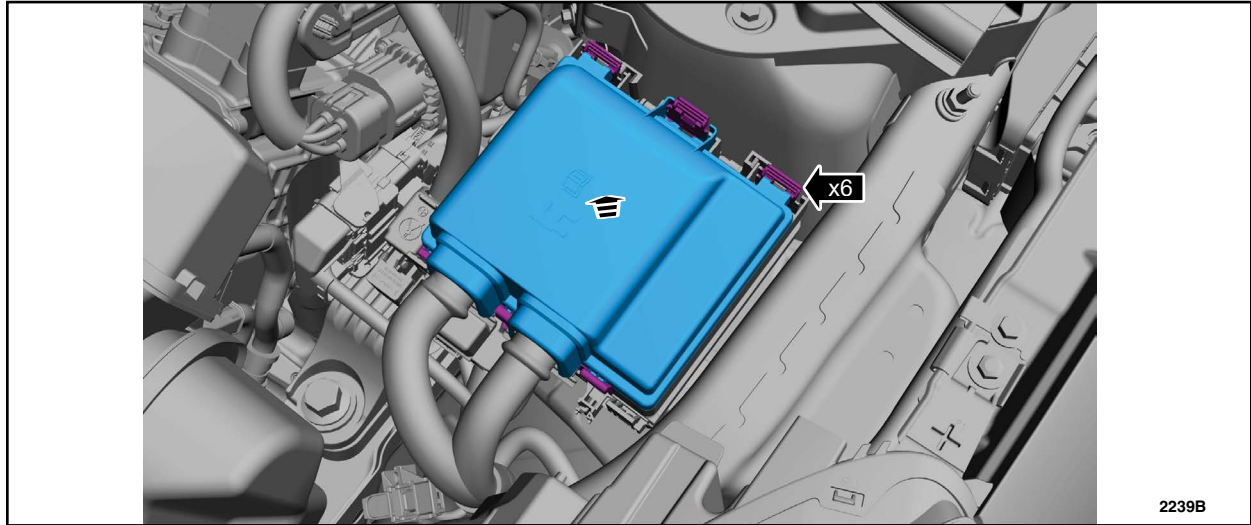

FIGURE 2
6. Release the tabs and battery junction box cover. See Figure 2.